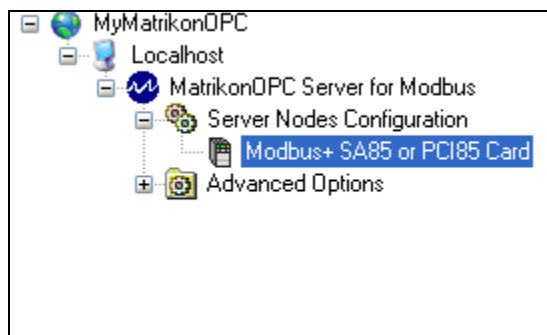

Figure 21 - New Modbus+ SA85 or PCI85 Card Node
- Click on the **Create** button. The new item is created and appears as a child of the **Server Nodes Configuration** node in the navigation pane as shown in Figure 21.